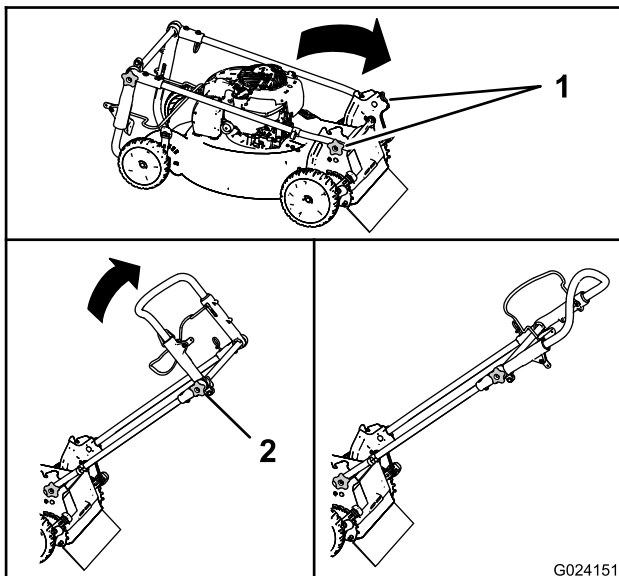

Figure 3
1. Remove the handle knobs from the machine housing (Figure 3).
3. Move the handle to the operating position (Figure 3), and tighten the 2 handle knobs as tightly as you can.
4. Loosen the upper handle knob, move the upper handle to the operating position (Figure 3), and tighten the upper handle knob.